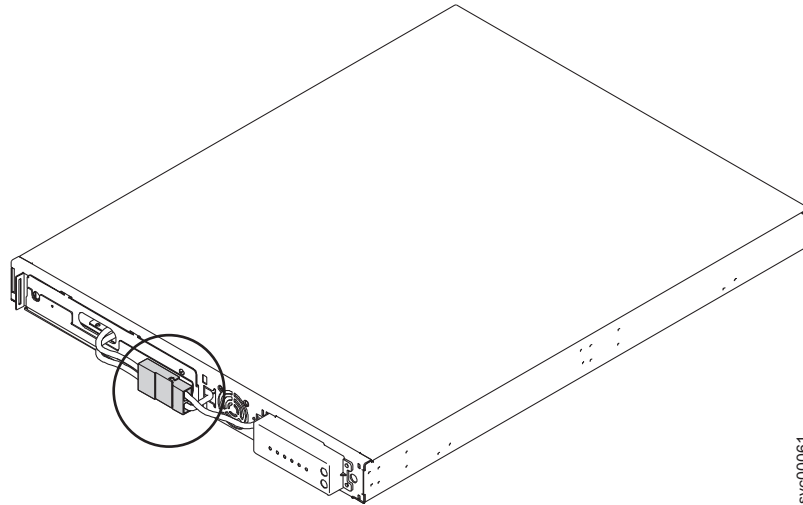

Figure 271. The 2145-1U uninterruptible power supply with internal battery connectors in place
7. Connect the internal battery connector (circled in Figure 271 on page 599).